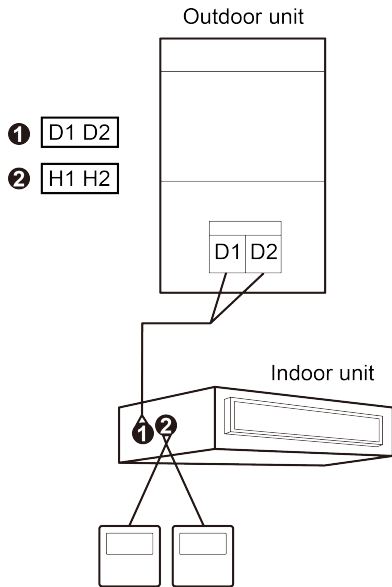

Fig. 5.7 Two wired controllers control one indoor unit
- (1) When one wired controller controls multiple indoor units simultaneously, the wired controller can connect to any one indoor unit, but the connected indoor unit must be the same series indoor unit. The total quantity of indoor unit controlled by wired controller can't exceed 16 sets, and the connected indoor unit must be within the same indoor unit's network. Wire controller must set quantity of group control indoor units. Please refer to 5.2.3 parameter setting.
- (2) When two wired controllers control one indoor unit, the addresses of those two wired controllers should be different. Please refer to 5.2.3 parameter setting.
- (3) When two wired controllers control multiple indoor units, wired controller can connected to any one indoor unit, while the connected indoor unit should be the same series indoor unit. The addresses of those two wired controllers should be different. Please refer to 5.2.3 parameter setting. The total quantity of indoor unit controlled by wired controller can't be more than 16 sets and all connected indoor units must be within the same indoor unit network. Wire controller must set quantity of group control indoor units. Please refer to 5.2.3 parameter setting.
- (4) When one (or two) wired controller(s) control(s) multiple indoor units at the same time, the controlled indoor unit's setting should be the same.
- (5) Wiring of wired controller and indoor unit network must be according to one of the four wiring method as shown in fig 5.6-5.9. As for the connection method shown in fig 5.7 and 5.9, there should be only one master wired controller (address is 01) and one slave wired controller (address 02). The quantity of wired controller can't exceed two.